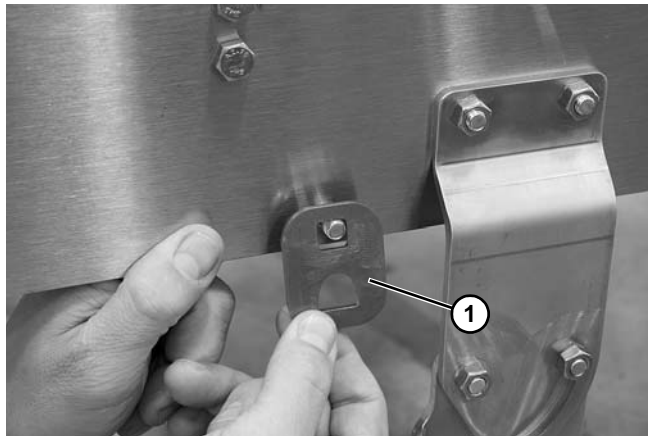

Figure 20
2. Install return bracket (Figure 20, item 1).